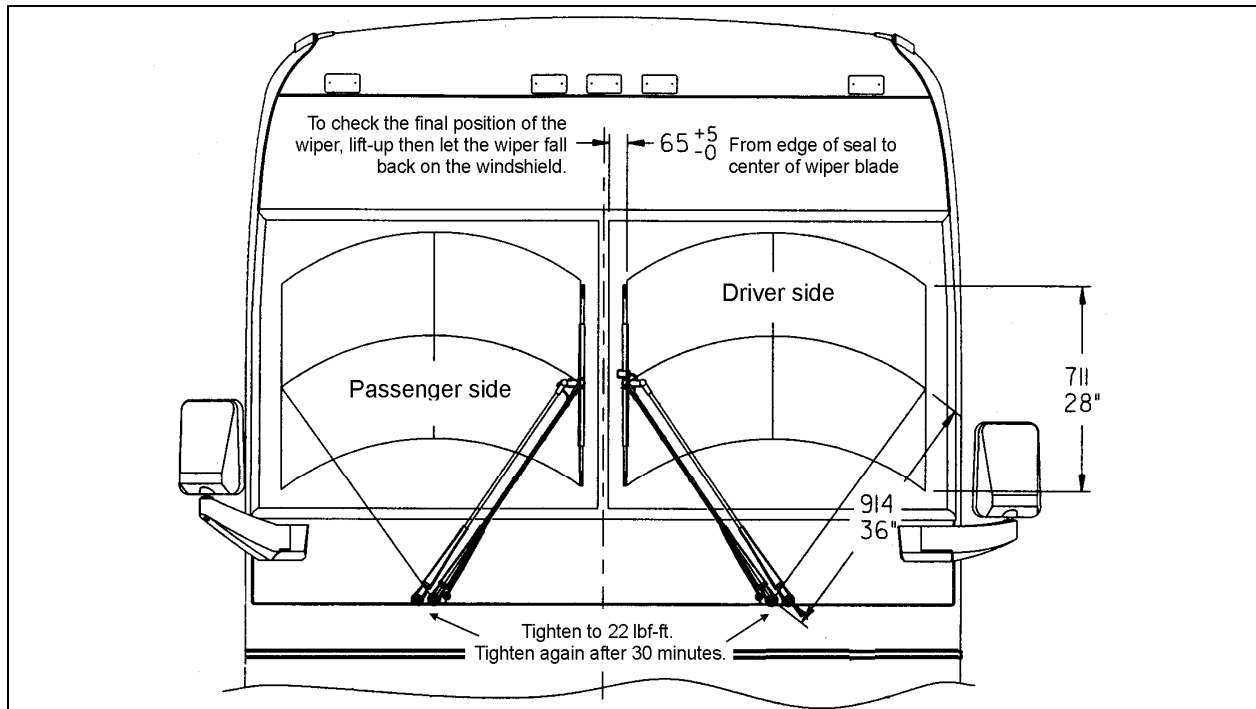

FIGURE 11: WIPER ARMS POSITIONING
1. Reinstall the wiper arms and position as shown in figure 11. Before positioning the wipers at their final position, tighten the nuts to 9 Ft-lbs (12 Nm) at first.